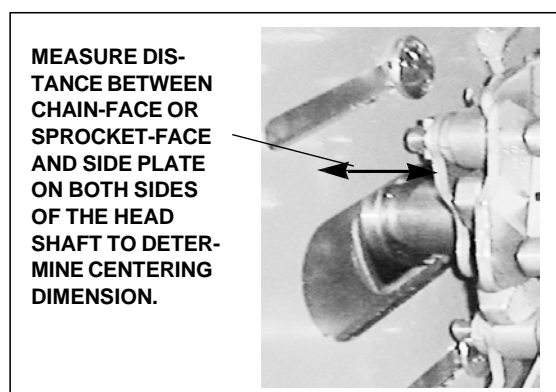

Figure 4. Headshaft Centering Measurement
a) Measure the distance between the headshaft sprocket face (or chain face) and the inside of the sidewall on both ends of the shaft to verify that the drag chain is centered in the discharge section (Figure 4). If not, proceed as follows:
- Measure the distance between the chain face (or sprocket face) and the inside of the sidewall (Figure 4). Be sure that the sprockets are centered (distance is equal for both sides).
- Adjust the headshaft so that the chain is equal distant between the chain and the inside of the side plate on each side (Figure 4).